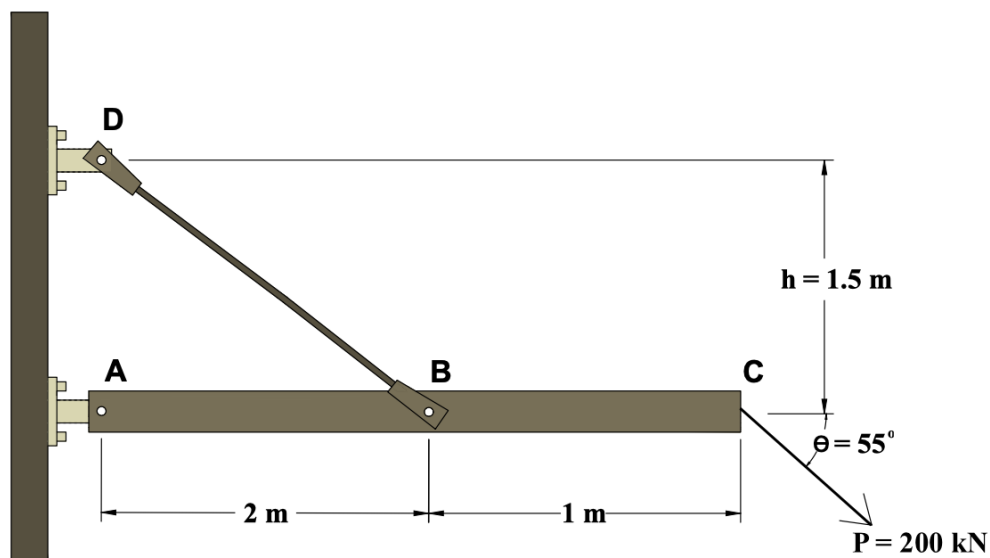
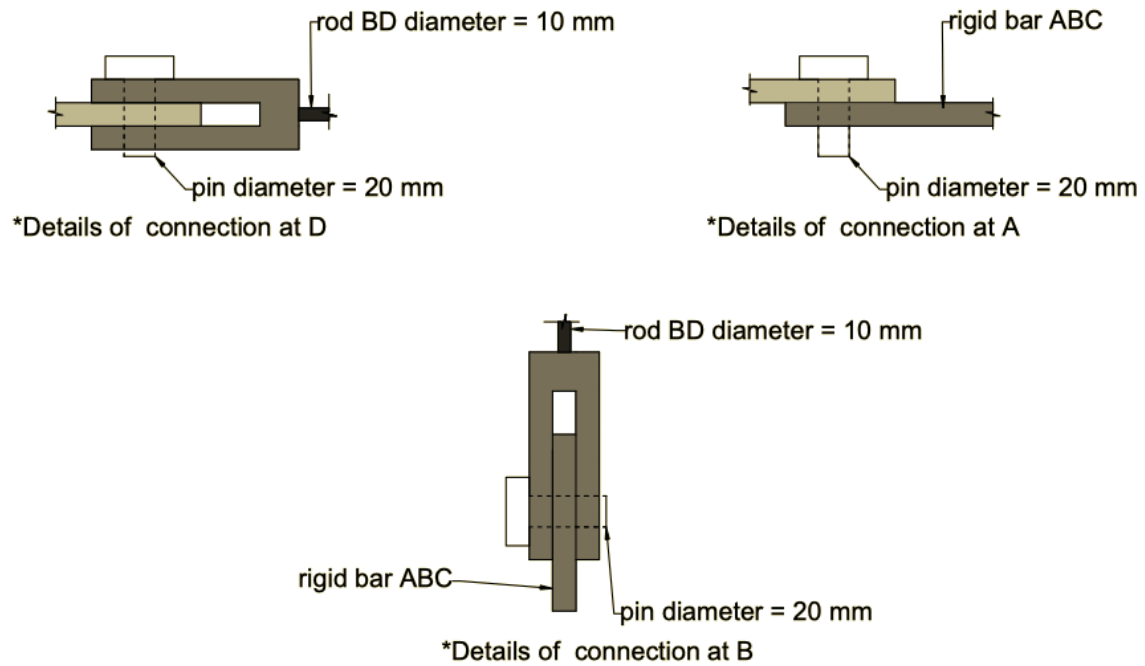

Figure 1
Figure 2
1. **Figure 1** shows a rigid bar ABC supported by the rod BD. The connection at point A is a single-shear pin while the connections at points B and D are double-shear pin. The diameter of the rod BD is 10 mm. The diameter of all pins is 20 mm. Given the distance $AB = 2$ m, the distance $BC = 1$ m, $h = 1.5$ m, $P = 200$ kN, and $\theta = 55^\circ$. Details of connections at support A, B and D are shown in **Figure 2**. Determine the following: